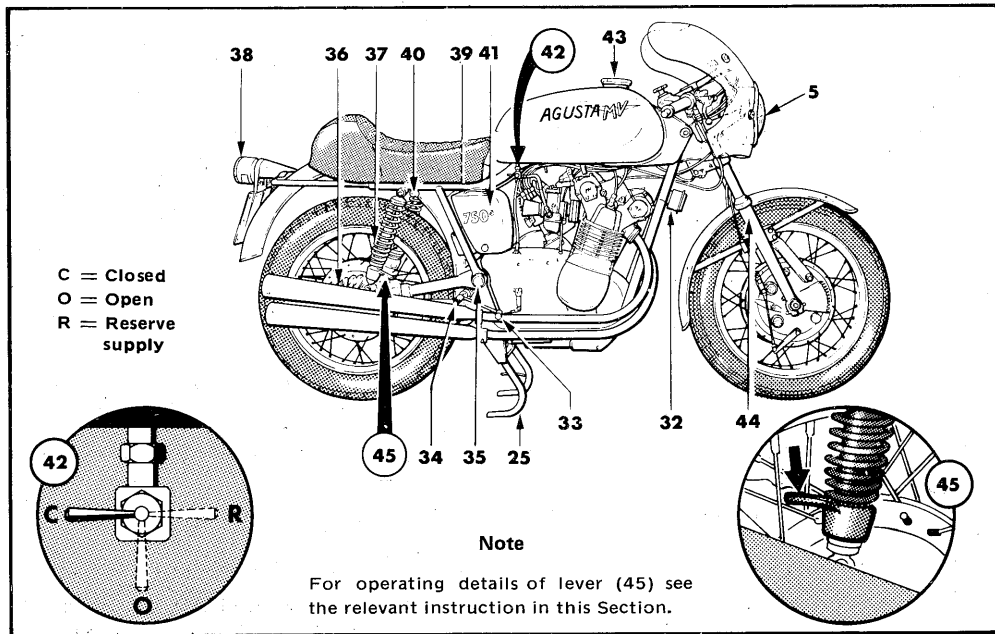

Figure 1-2. Motorcycle main controls and instruments (sheet 3 of 3)
24. BATTERY HOLDER - Left side. See Section III "MAINTENANCE - ADJUSTMENTS" for details and (41) for Right side.
31. DISC BRAKE HOUSING - Optional. See figure 1-2, sheet 2 of 3 for detail, and see Section III "MAINTENANCE - ADJUSTMENTS" for further information.